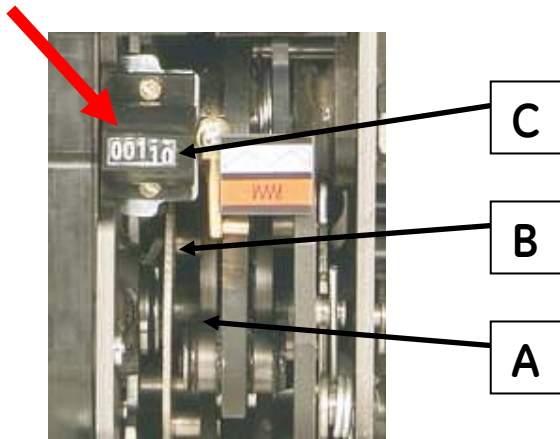

Figure 4. Operations Counter Location
5. Ensure the operating arm (B) on the counter rides over the spring charging link (A) of the circuit breaker mechanism (Fig.4).